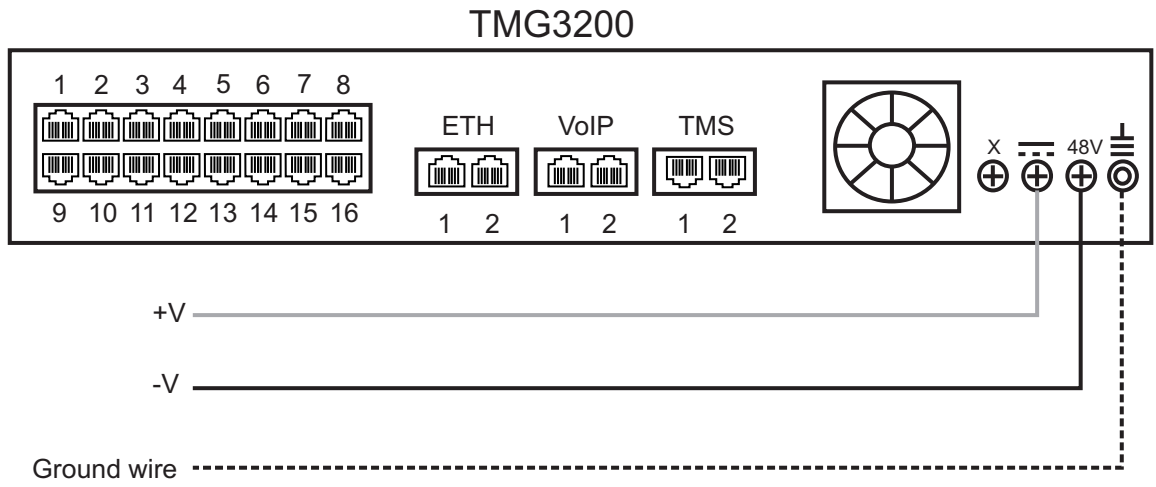

Figure 2.9 TMG3201 DC wiring diagram
1. Connect a ground wire to the ground lug located at the rear of the TMG3201, as shown in figure 2.9 on page 20.